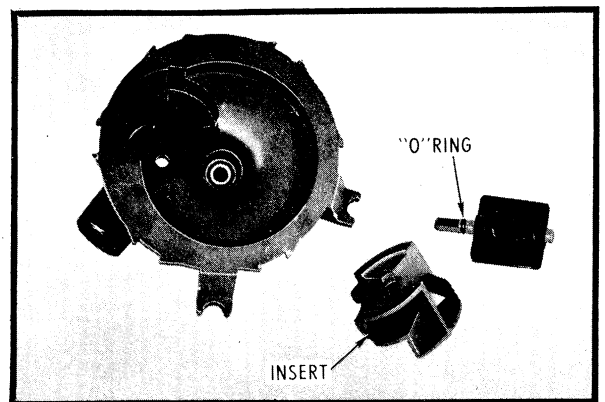

Figure 95E
- D. Remove the insert, *Figure 95E*, by lifting it out of the body. Applying pressure to the top of the flapper valve shaft will facilitate removal. The flapper valve will lift out of the body if the bracket and linkage is first removed. The "O" ring on the shaft of the flapper valve should be replaced.